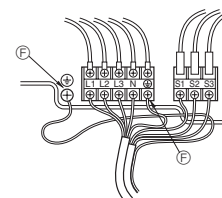

Fig. 6-2
### 6.1. Outdoor unit (Fig. 6-1, Fig. 6-2)
- 2 Wire the cables referring to the Fig. 6-1 and the Fig. 6-2.